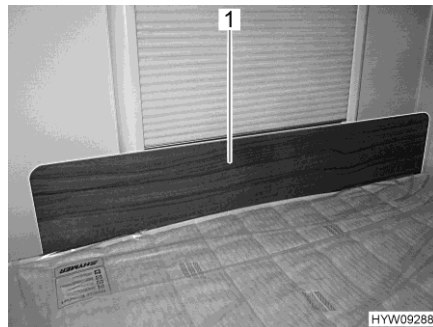

Fig. 112 Protective panel / fall out protection
- Plug in the protective panel (Fig. 112,1) in front of the window, between mattress and window frame. The clamping effect of the mattress holds the protective panel in its position in front of the window frame.